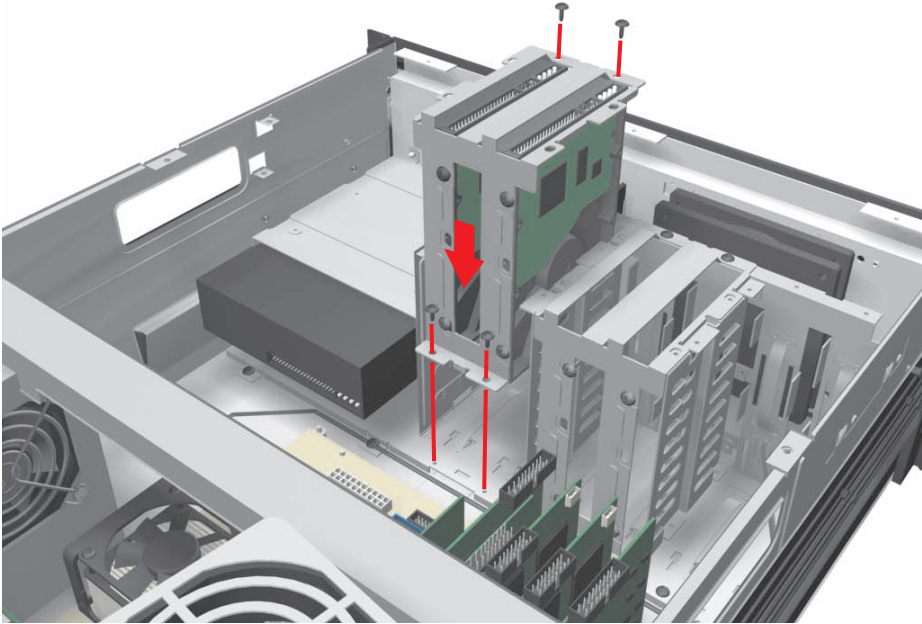

Figure 13. Replacing Drive Basket
- a. Align the basket and press down firmly to ensure that it fits flush against the top of the chassis bracket. Refer to Figure 13.